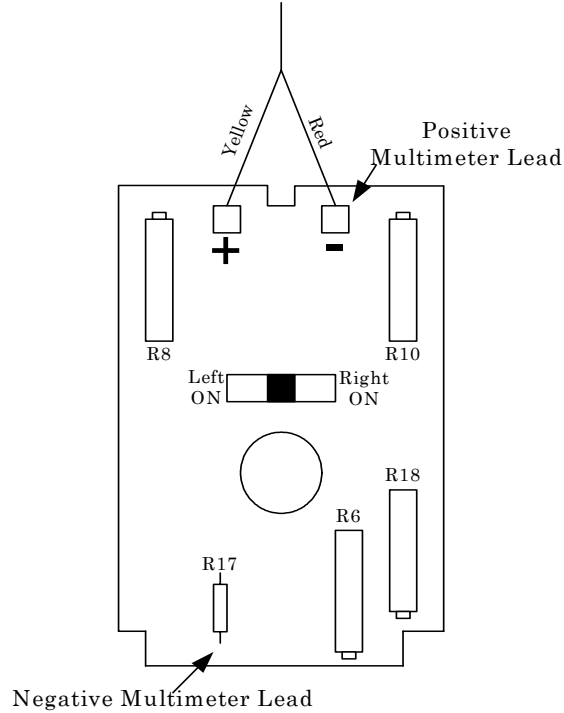

Figure 2. Motherboard – component side
- (1) Remove the four front panel screws and case.
- (2) Connect multimeter no.2 as indicated in figure 2.
- (3) Set multimeter no. 2 to measure dc millivolts.
- (4) Energize TI by moving the slide switch to the right black **ON** position.
- (5) Move temperature selector to the highest output position.
- (6) Adjust **R10** (fig. 2) for multimeter no. 2 reading in table 8; corresponding to the ambient temperature recorded in paragraph **7 a** above (R).
- (7) Adjust **R8** (fig. 2) for in tolerance reading on multimeter no. 1 (R).
- (8) Repeat steps (6) and (7) until readings are in tolerance.
- (9) Move temperature selector to the lowest output position.
- (10) Adjust **R18** (fig. 2) for in tolerance reading on multimeter no. 1 (R).
- (11) Repeat steps (6) through (10) until readings are in tolerance.
- (12) Move temperature selector to the second lowest output position.
- (13) Energize TI by moving the slide switch to the left white **ON** position.
- (14) Adjust **R6** (fig. 2) for in tolerance reading on multimeter no. 1 (R).
- (15) Repeat steps (4) through (14) above until readings are in tolerance.
- (16) Repeat paragraph 8 a.